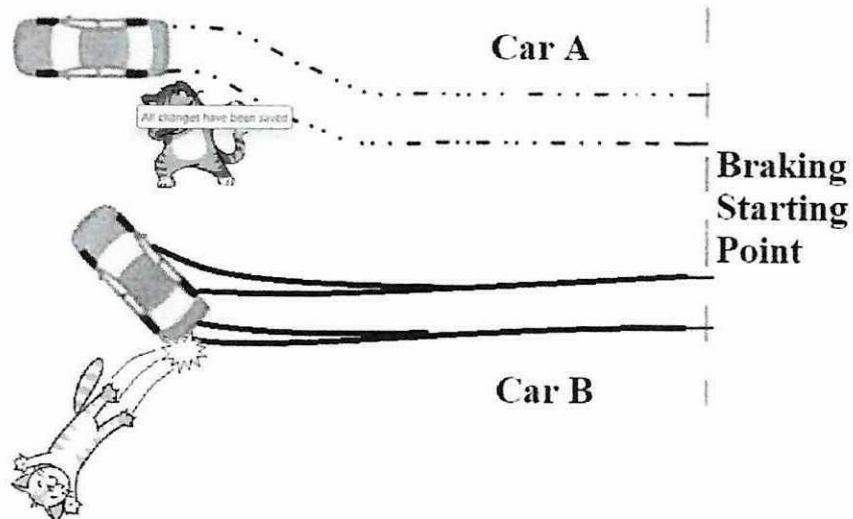

Figure Q4.4
- (e) Investigate the brake system utilized by Car A and elucidate why it resulted in a broken line track on the road surface during emergency braking, as depicted in **Figure Q4.4**.